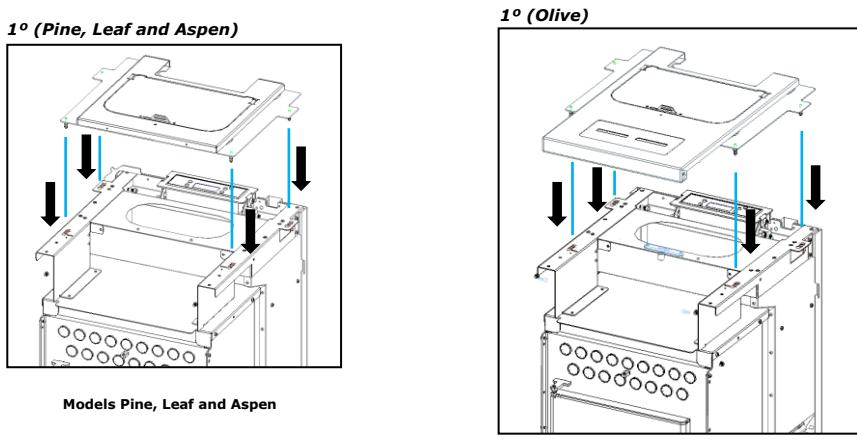

Figure 35 - Top cover placement
- a) Fit the top plate as shown in Figure 35. To ensure that the top is properly seated, it contains four pins on the bottom that should fit the springs in the frame.